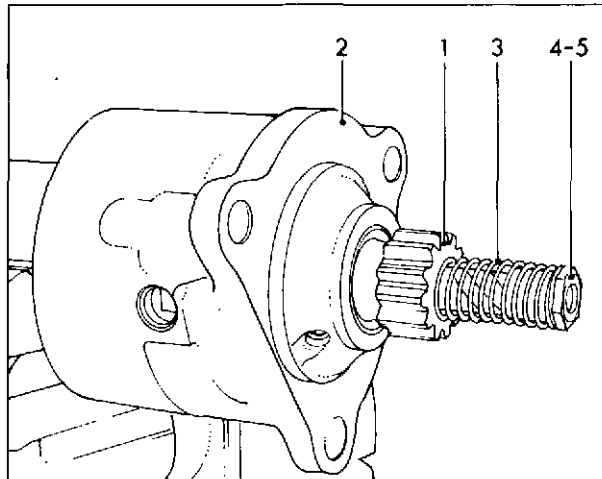

Fig. 24 Assembling drive end shield
2. Pull the pinion (1) fig. 24 fully out of the drive end shield and retain it in this position.
5. Fit the pinion return spring (3) and thrust washer (4) and secure with the pinion stop nut (5), finger tight only; remove the armature from the vice.